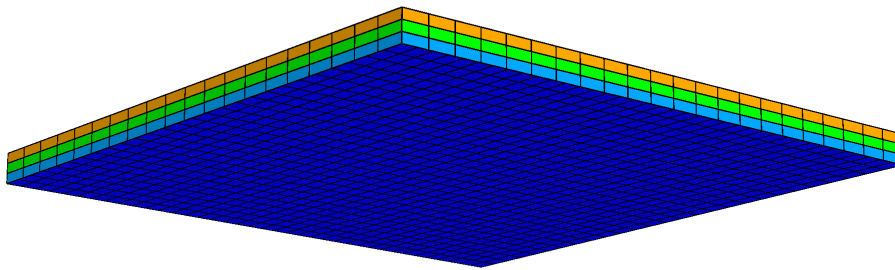

Figure 58: 20m×20m×2m box as meshed by ShipMo3D, showing wet hull only.
- ★ Generate a mesh for the solver using around 1000 panels as shown in Figure 58.